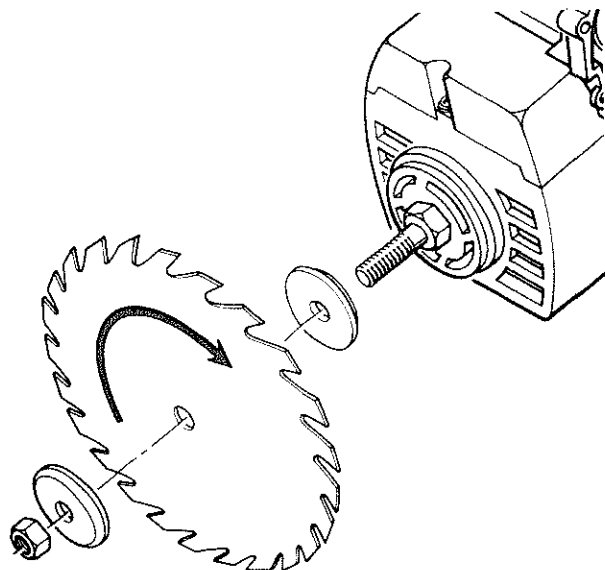

Fig. 106
2. Place the *blade* on the *arbor shaft* with a **blade collar** on each side. Make sure that the directional arrow is on the outside of the *blade*, and the teeth are pointing down at the front side of the blade. (Figure 106)